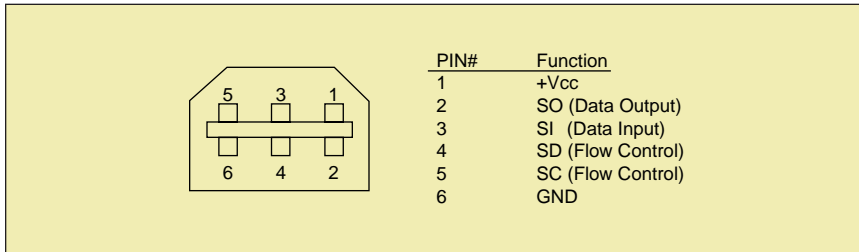

Figure 2: GBA serial port pinout and functions.
- With the multiboot method, you download programs from a PC through the GBA's serial port into the internal 256-KB RAM (referred to as "external work RAM" in Table 1). The advantage of this method is that, except for a PC-to-GBA serial cable, extra hardware is not required. (The serial communication protocol used by the GBA is a nonstandard, 16-bit asynchronous transfer.) The disadvantage is that the PC (or other host) that downloads the program is required every time the GBA is powered up. Figure 2 shows the GBA's serial port connections.